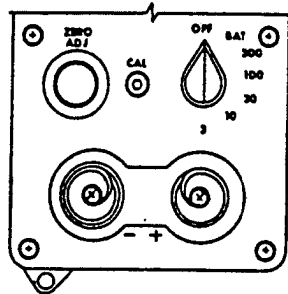

Figure 4-3. Battery Installation
STEP 3. Loosen battery cover screws, remove battery cover and insert batteries (2- BA-30, 1.5 Volt "D" Cell). Observe polarity markings on the top of the panel under the battery cover (See Figure 4-3.).